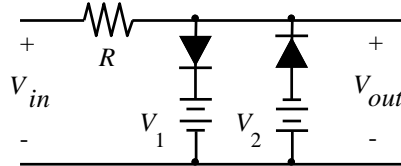

Fig. 9
b) Assemble the circuit in Fig. 9 with V_{in} as a DC source. You need to vary V_{in} from -8 to 8V in the steps of 2V. Using “5V-fixed” terminals of the other power supply (the black one) make $V_1=5V$. Use the other variable DC terminal to make $V_2=4V$. Measure the output (V_{out}). Fill out the table below and draw the relationship between V_{in} and V_{out} .